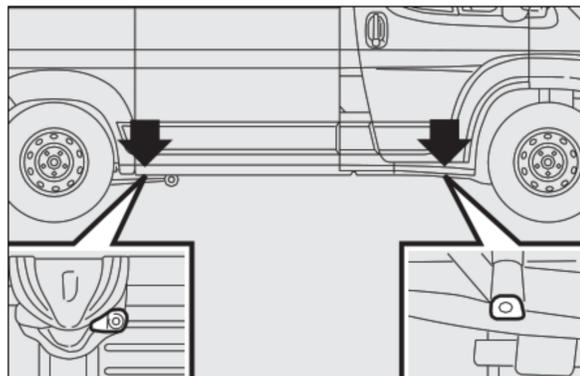
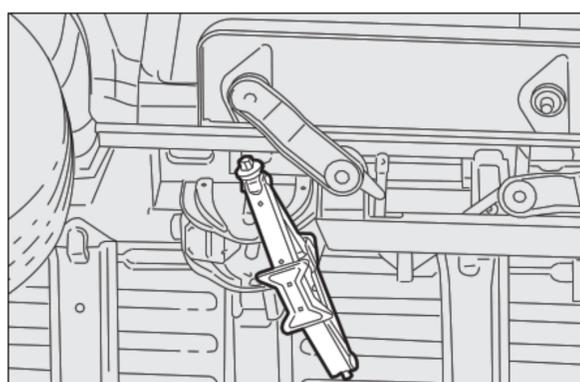

fig. 7a
fig. 7b
- set the jack near the lifting support close to the wheel to change in the points shown in **fig. 7a**. For short wheelbase versions with retractable footboard, the jack shall be set in the point shown in **fig. 7b** and shall be suitably directed (45°) to avoid interference with the retractable footboard;